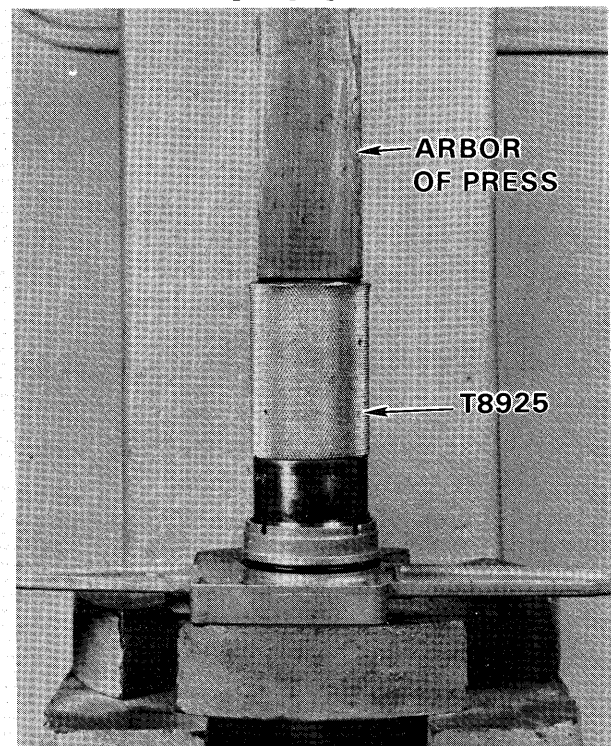

Figure 10—Installing Driveshaft Seal
- B. Place driveshaft seal in gear housing cover with metal case of seal facing toward lube side. Press seal in bore using special tool T8925 until seal is flush with outer face of seal bore cavity. See figure 10.